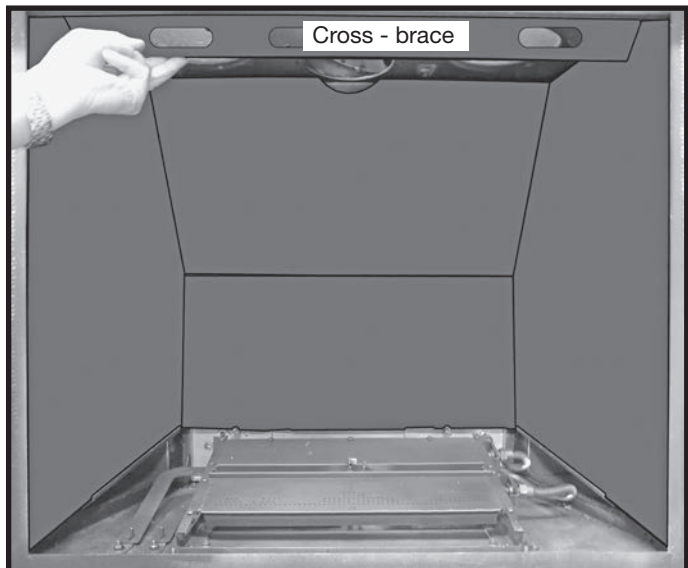

Figure 56: Cross brace in place.
5. Support the two side panels if necessary while inserting the cross brace to the upper front of the firebox (Figure 56). Secure the cross brace with the two combination 1/4" / Phillips bolts located at the top of the firebox ceiling. This brace will also support the glass baffle.